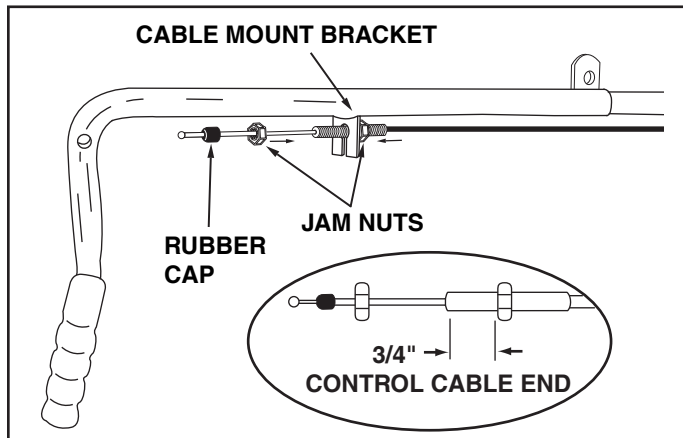

FIGURE 17 (Right Hand Side View)
32. Remove the rubber cap and the first jam nut from the threaded end of the control cable and slide them onto the control cable wire. Adjust the second jam nut on the threads so that it is approximately 3/4" from end. Assemble threaded end of cable through the cable mount bracket and secure it with the first jam nut. Reinstall the rubber cap onto the threaded cable end. See figure 17.